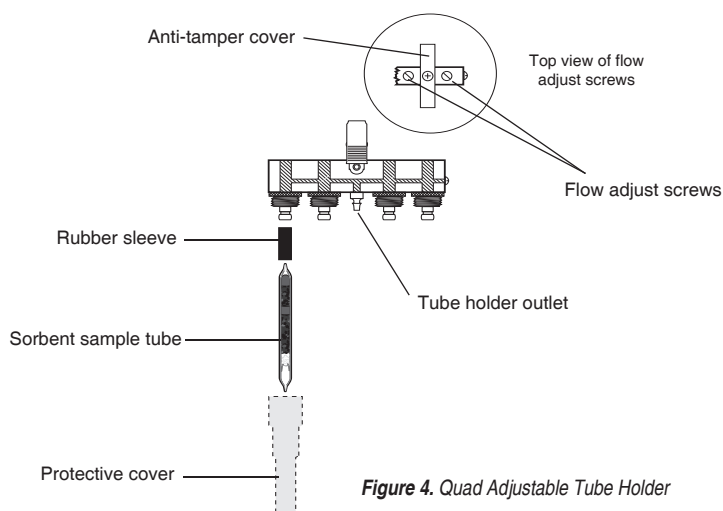

Figure 4. Quad Adjustable Tube Holder
Using Multiple-tube Adjustable Tube Holder (Figure 4)
- a. Connect the adjustable tube holder (Figure 4) to the pump inlet (Figure 1) using the attached 1/4-inch Tygon tubing. *See right.*
- b. Insert an opened sorbent tube into each rubber sleeve of the tube holder (Figure 4).
6. Loosen and turn the brass flow adjust screw (*Figure 4*) on the port of the appropriate tube holder (**counterclockwise to increase, clockwise to decrease**) until the desired flow rate is achieved. **Note:** For tri and quad models, first rotate each anti-tamper cover (*Figures 4 and 5*) to expose the flow adjust screws, then adjust the appropriate one until the flowmeter indicates the desired flow.